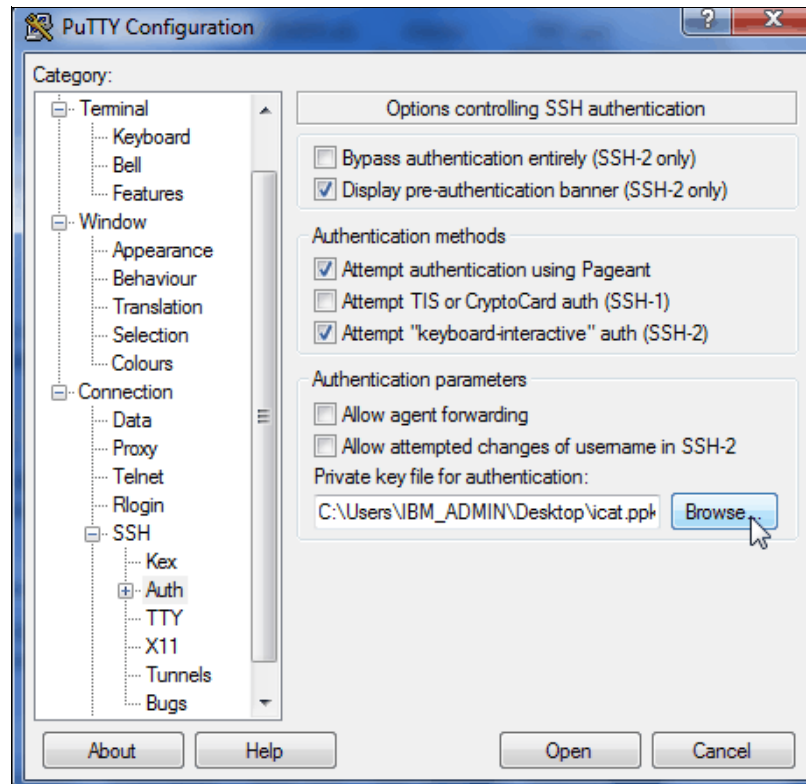

Figure A-12 SSH authentication
4. From the Category pane on the left side of the PuTTY Configuration window, click **Connection** → **SSH** → **Auth**. As shown in Figure A-12, in the right side pane in the “Private key file for authentication:” field under the Authentication Parameters section, browse to or manually enter the fully qualified directory path and file name of the SSH client private key file that was created earlier (for example, C:\Support Utils\PutTY\icat.PPK).